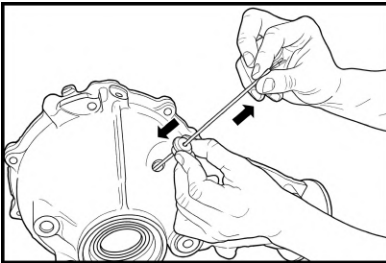

Fig. 39
3.14 While holding the magnet cable, apply slight upward tension to the cable. Slide the rubber seal down the cable until there is approximately $\frac{1}{2}$ " - 1" of clearance between the differential housing and the rubber seal. (**Fig. 39, 40**)